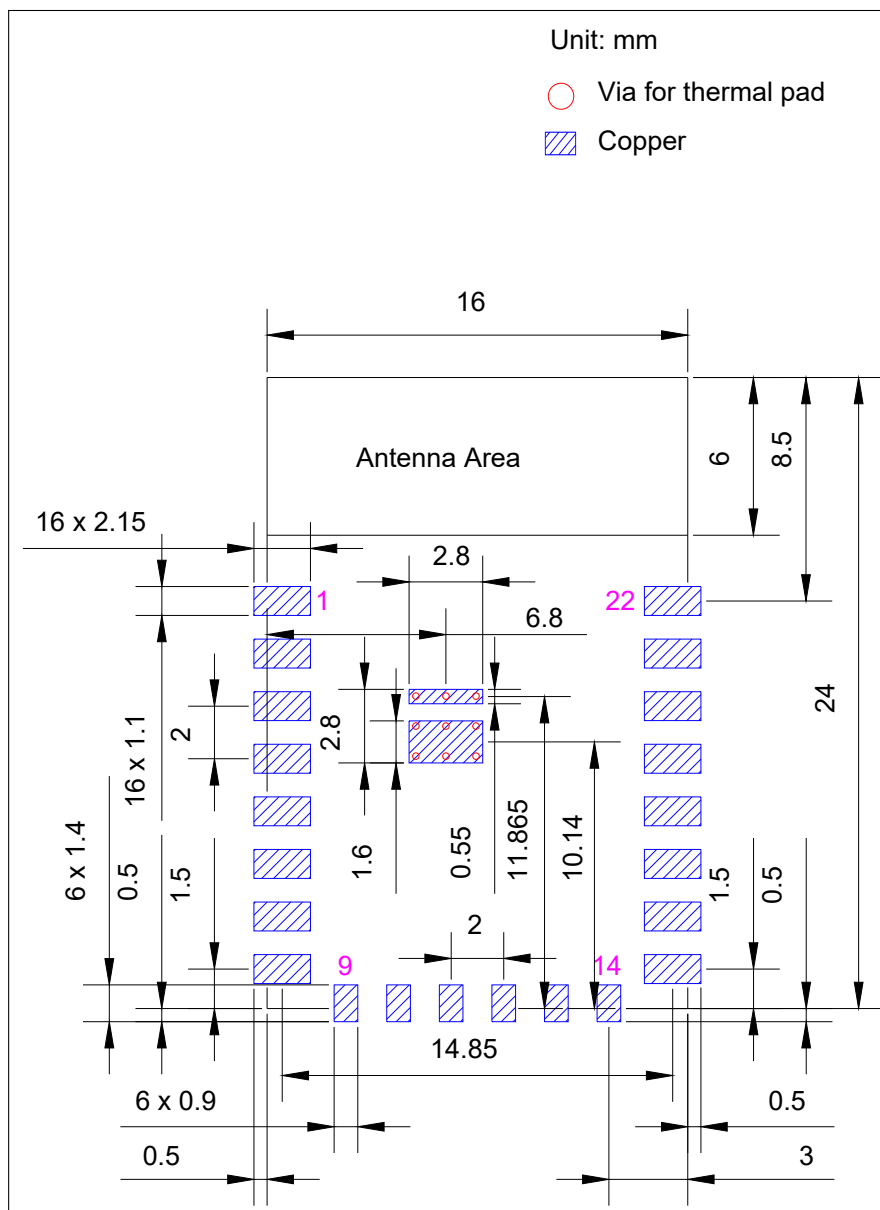

Figure 7: Recommended PCB Land Pattern
- Figure for the recommended PCB land pattern with all the dimensions needed for PCB design. See Figure 7 Recommended PCB Land Pattern.
- Source file of the recommended PCB land pattern to measure dimensions not covered in Figure 7. You can view the source files for ESP8684-WROOM-01C with Autodesk Viewer.